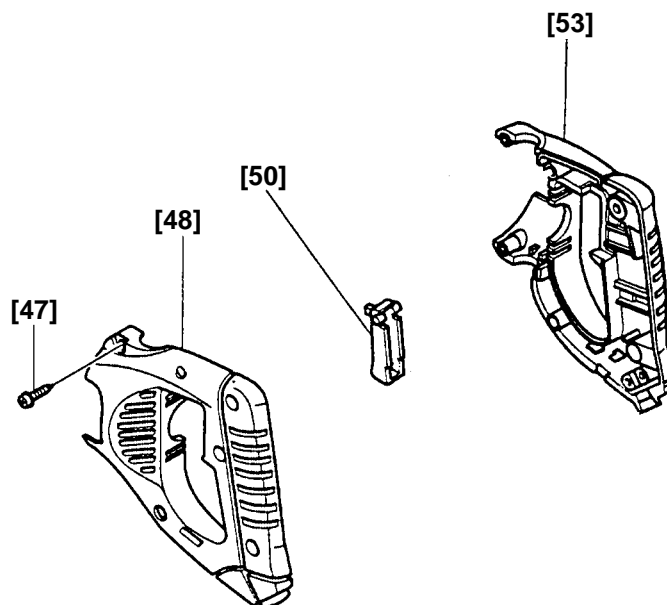

Fig. 8
(6) Removal of Handle (A) [53] and Handle (B) [48] (Fig. 8)